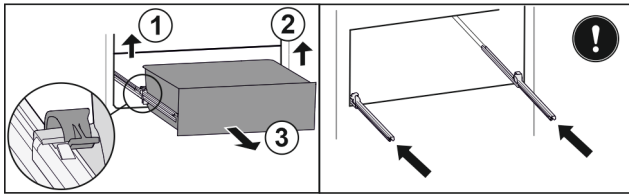

Fig. 154
- Lift left clamp and simultaneously pull drawer forwards on the left. Fig. 154 (1)
- Lift right clamp and simultaneously pull drawer forwards on the right. Fig. 154 (2)
- Remove drawer to the front. Fig. 154 (3)